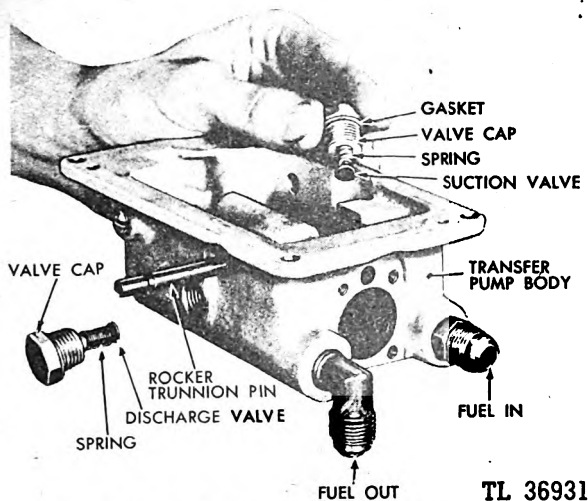

Fig. 279. Discharge and Suction Valves
(6) The suction and discharge valves of the transfer pump can be removed by unscrewing the valve assembly caps. The parts of these valves are alike and interchangeable, excepting the springs. The discharge valve spring is the heavier of the two. (See Figure 279.)